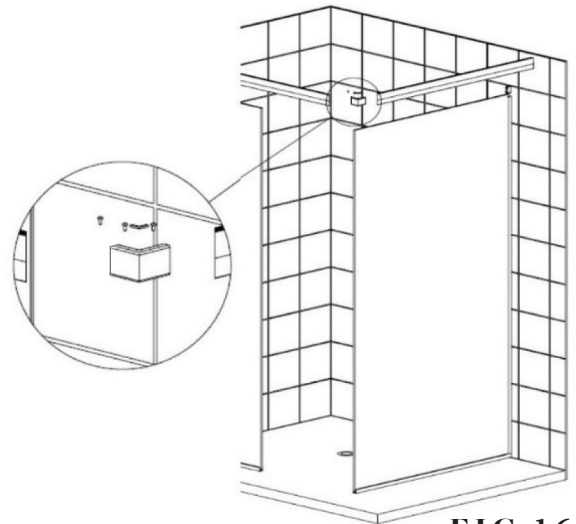

FIG 16.
- With corner showers, use the grey corner block in the mitred corner (**FIG 16**) to support the mitre. This should press into the mitred corner, and be a tight snug fit.